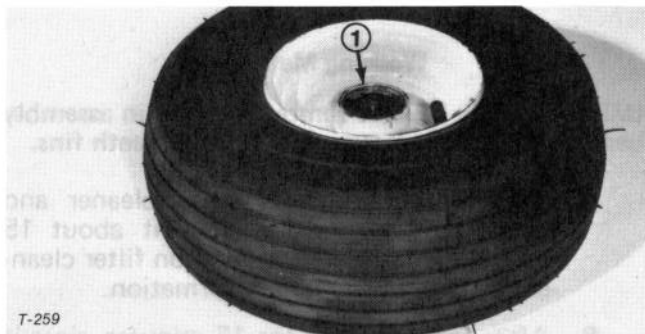

Figure 50
3. Remove bearings from wheel hub (Fig. 50). Clean the bearings in solvent and make sure they are in good operating condition. Also clean the inside